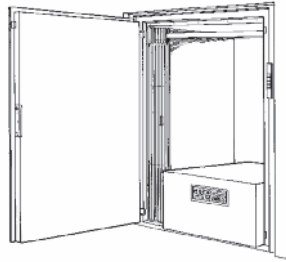

Fig. 11
- the load does not overhang the edge of the lift car (Fig. 11).